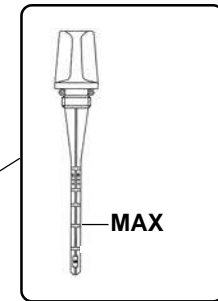

Fig. 26
- 2) Unscrew dipstick (A - Fig. 26), clean it and refit it, **wrenching it tightly**.
- Refit drain screw with gasket and fill with approximately **250 cm3** of new oil (**Q8 T35 - 80W**), then refit cap and dipstick (A - Fig. 26)